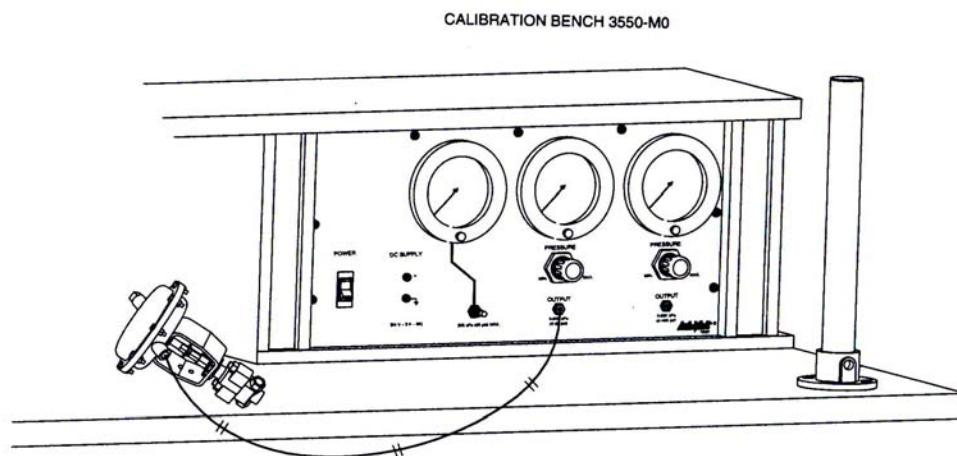

Figure 7-2. Alignment of a Control Valve.
- 3. Make the instrument connections shown in Figure 7-2.